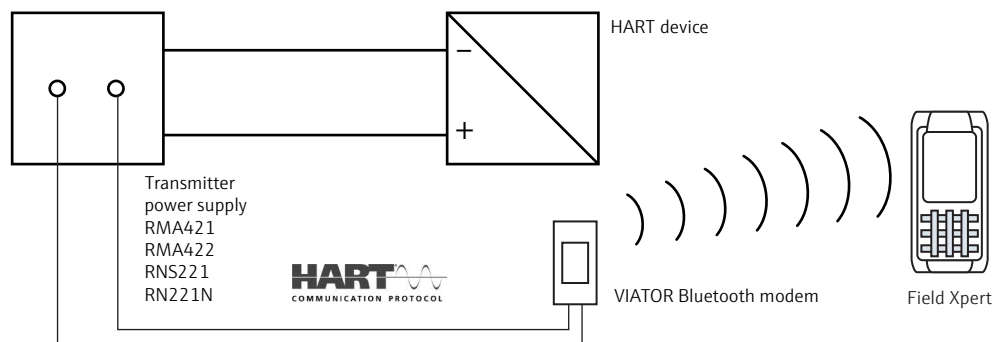

Fig. 2-3: Connection via a transmitter power supply with HART communication sockets (internal load resistor)
- With a transmitter power supply with built-in HART communication resistor, via the two HART communication sockets on the front panel as shown in Fig. 2-3. Suitable HART transmitter power supplies are: